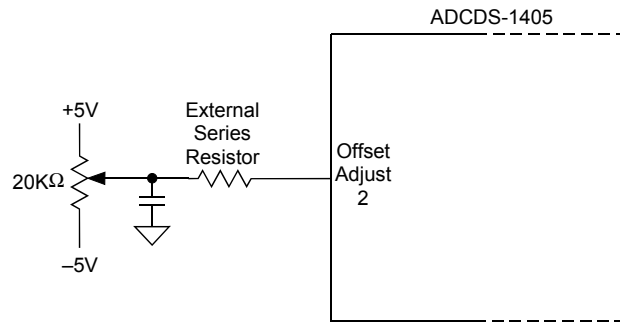
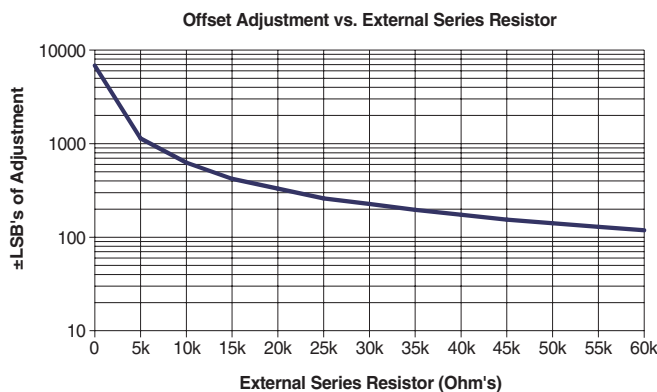

Figure 3. Offset Adjustment Circuit
Figure 6. Offset Adjustment vs. External Series Resistor
3. If using the suggested offset and gain adjust circuits (Figure 3 & 5), place them as close to the ADCDS-1405's package as possible.
Manual offset adjustment for the ADCDS-1405 can be accomplished using the adjustment circuit shown in Figure 3. A software controlled D/A converter can be substituted for the 20KΩ potentiometer. The offset adjustment feature allows the user to adjust the Offset/Dark Current level of the ADCDS-1405 until the output bits are 00 0000 0000 0000 and the LSB flickers between 0 and 1. Offset adjust should be performed before gain adjust to avoid interaction. The ADCDS-1405's offset adjustment is dependent on the value of the external series resistor used in the offset adjust circuit (Figure 3). The Offset Adjustment graph (Figure 6) illustrates the typical relationship between the external series resistor value and its offset adjustment capability utilizing ±5V supplies.